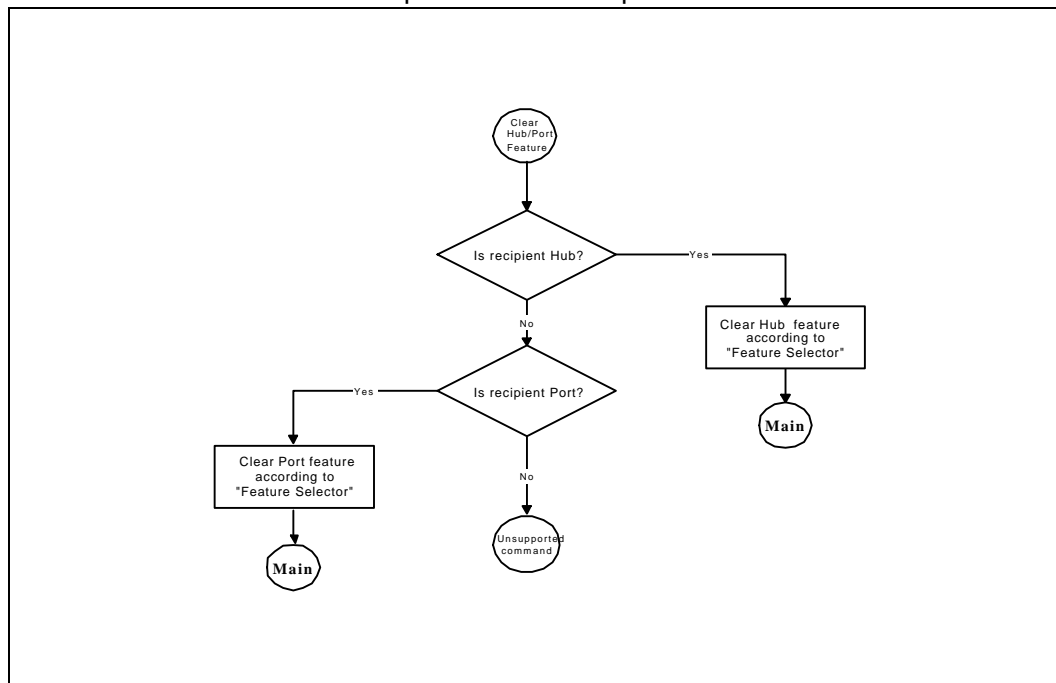

Figure 17: Clear Hub/Port Feature Command
- Clear Hub/Port Feature (Figure 17)